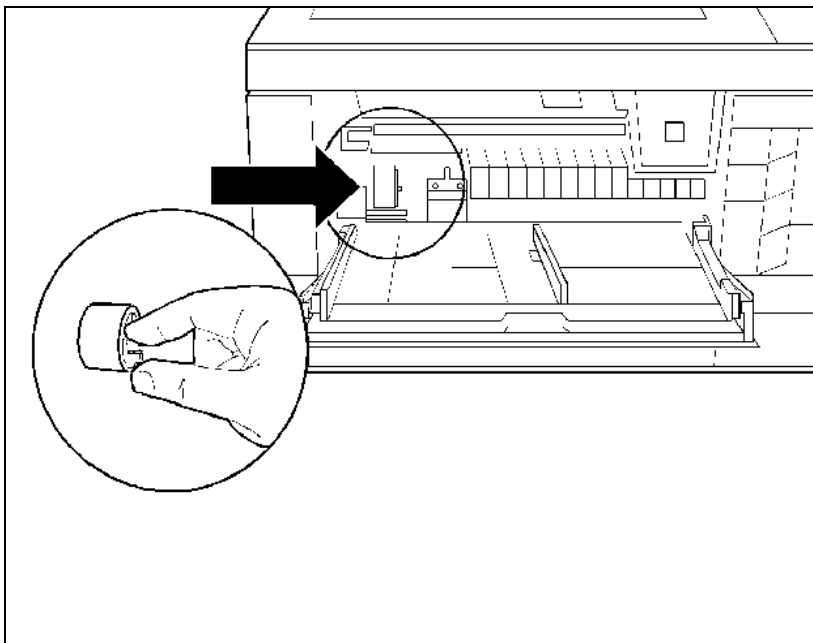
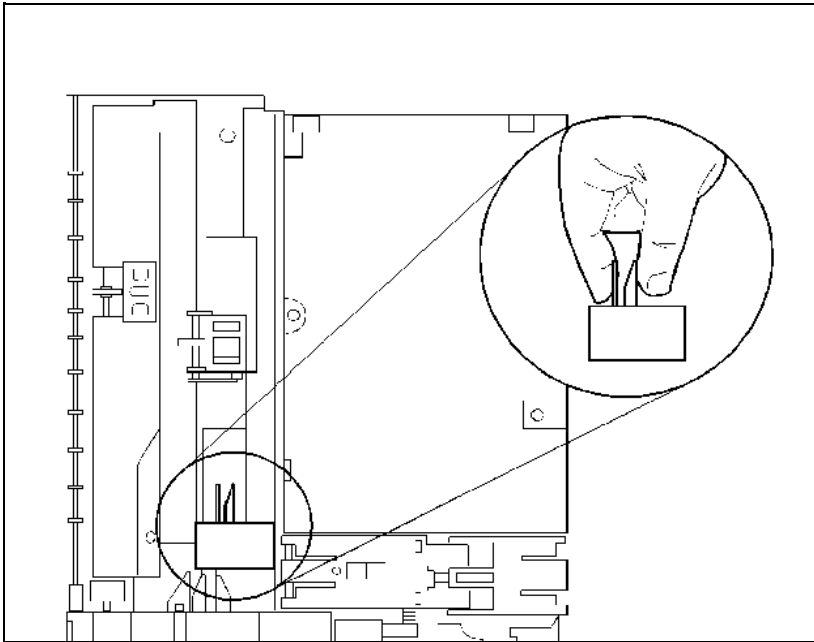
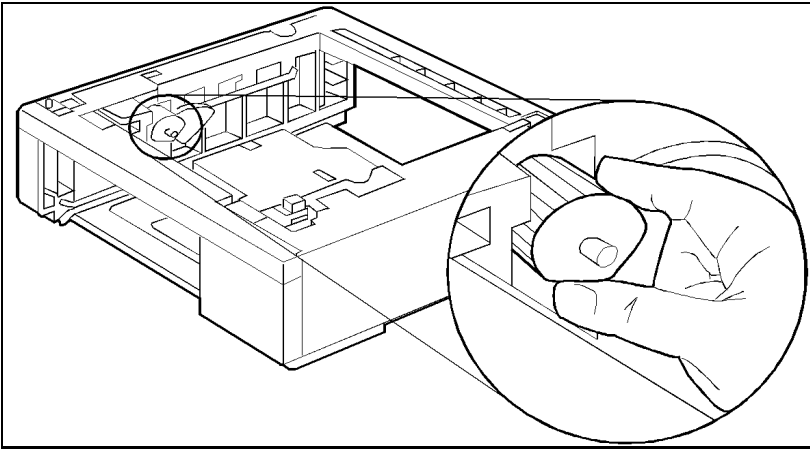

Figure 4-5 **Removing the MP Tray (Tray 1) Pickup Roller**
Figure 4-7 Removing the PC (Tray 2) Pickup Roller (printer is turned on its left side)
Figure 4-8 Removing the Lower Cassette Pickup Roller
Each paper source has a Paper Pickup Roller that should be replaced when paper no longer feeds reliably. The MP Tray (Tray 1) Paper Pickup Roller is shown in Figure 4-5. The PC tray (Tray 2) Pickup Roller is shown in Figure 4-7, the LC (Tray 3) Pickup Roller is shown in Figure 4-8.
- 3** Remove the roller by pinching the plastic retaining clip at the side of the roller and sliding it off its shaft (see Figure 4-5). (You may find it easiest to pinch the clip with your *right* hand and use your *left* index finger to slide the roller to the right.)
The PC Pickup Roller is underneath the printer (see Figure 4-7). To remove the Pickup Roller:
- 2** Press the retainers that hold the roller in place (see Figure 4-8).